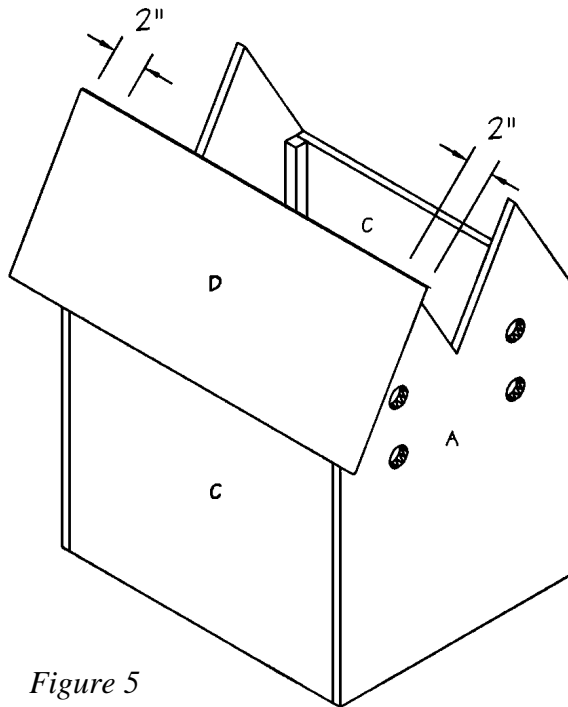

Figure 5
1. Cut two Outer Roofs (D) from 1/4"-thick plywood each measuring 10 x 23-1/2".
2. Turn the assembly right side up, and fit one Outer Roof (D) over one top outer side of the assembly, over the edges of the Front (A), Back (A) and Side (C), as shown in *Figure 5*. The Outer Roof (D) should be flush with the top points of the Front and Back (A), and should extend 2" past the Front (A), Back (A) and Side (C) as shown in *Figure 5*. Apply glue to the meeting surfaces, and nail through the Outer Roof (D) into the edges of the Front (A), Back (A), and Side (C) using 1"-long wire brads spaced about 2" apart.
3. Repeat Step 2 to attach the remaining Outer Roof (D) to the opposite side of the house.
4. Cut two Inner Roofs (E) from 1/4"-thick plywood, each measuring 8 x 23-1/2".
5. Place one Inner Roof (E) over the edges of the Front (A) and Back (A). Check to make certain that the Inner Roof (E) does not overlap the edge of the Outer Roof (D). Trim the width of the Inner Roof (E) if necessary. Apply glue to the meeting surfaces, and nail through the Inner Roof (E) into the Front (A) and Back (A) using four evenly spaced 1"-long wire brads on each joint.
- Repeat Step 5 to attach the remaining Inner Roof (E) to the opposite side of the assembly.